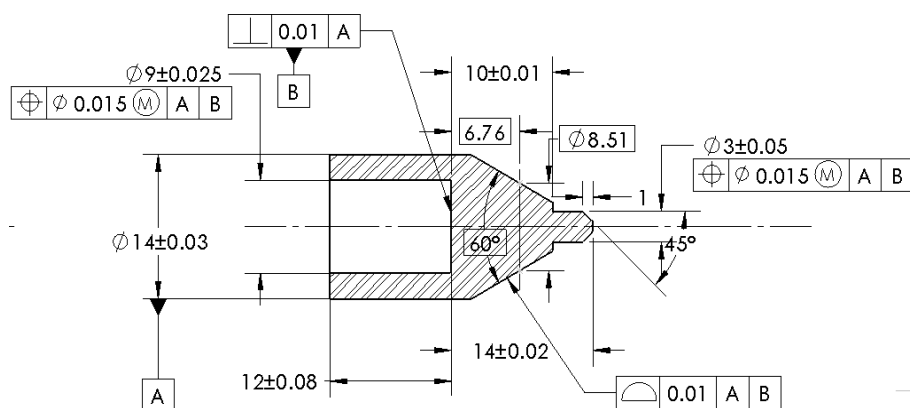

Fig. 10.4
2. Draw the Annotations and Tolerance (made from generated 2D) refer Fig. 10.4